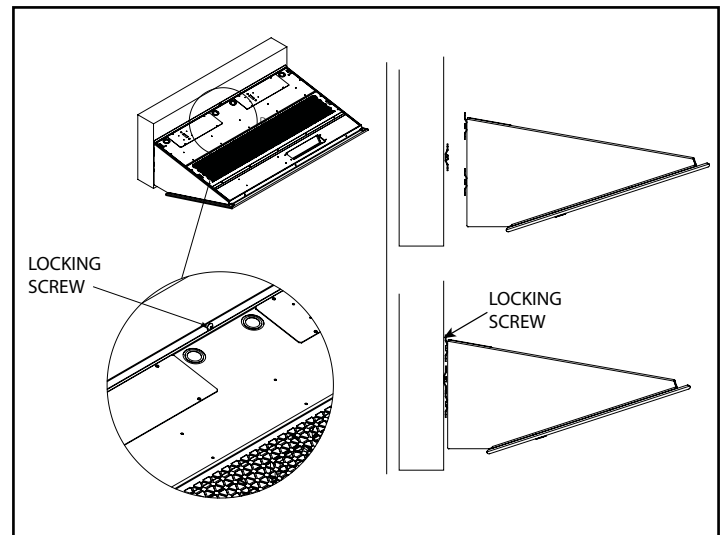

Figure 5 - Wall Mounting Installation
1. Raise the unit over the door (air discharge nozzle facing down) and onto the wall mounted brackets. **See Figure 5.**
2. Position the unit against the wall, slide it down so the top wall mounting bracket (attached to the unit) interlocks with the wall mounting bracket that is attached to the wall. Add one locking screw in the top middle of the wall mounting bracket. **See Figure 5.**